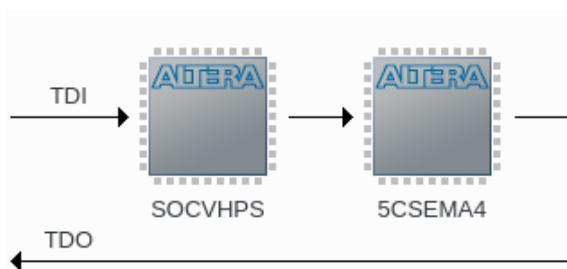

Figure 9-21. JTAG Scan Chain
You should now see 2 devices on the JTAG scan chain, as shown in Figure 9-21.
43. Right-click on the “5CSEMA4” device shown in Figure 9-21 and choose “Edit > Change File”. Then, select “DE0\_Nano\_SoC\_demo/hw/quartus/output\_files/DE0\_Nano\_SoC\_demo.sof” through the file browser.